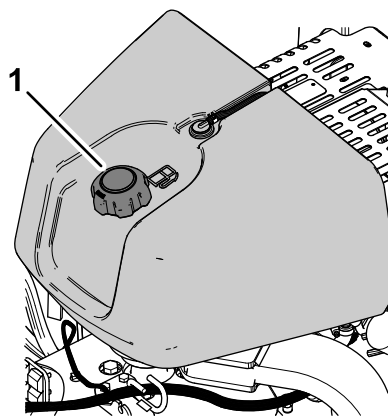

**Figure 30**
2. Clean around the fuel-tank cap and remove it (Figure 30).